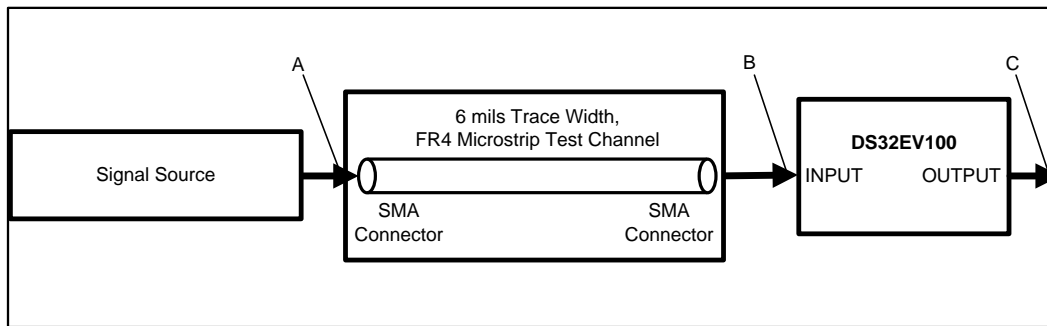

Figure 2. Test Setup Diagram
(4) Measured with clock-like {11111 00000} pattern.
(5) Specification is guaranteed by characterization at optimal boost setting and is not tested in production.
(6) Deterministic jitter is measured at the differential outputs (point C of Figure 2), minus the deterministic jitter before the test channel (point A of Figure 2). Random jitter is removed through the use of averaging or similar means.
(7) Random jitter contributed by the equalizer is defined as  $\sqrt{J_{OUT}^2 - J_{IN}^2}$ .  $J_{OUT}$  is the random jitter at equalizer outputs in psrms, see point C of Figure 2;  $J_{IN}$  is the random jitter at the input of the equalizer in psrms, see Figure 2.